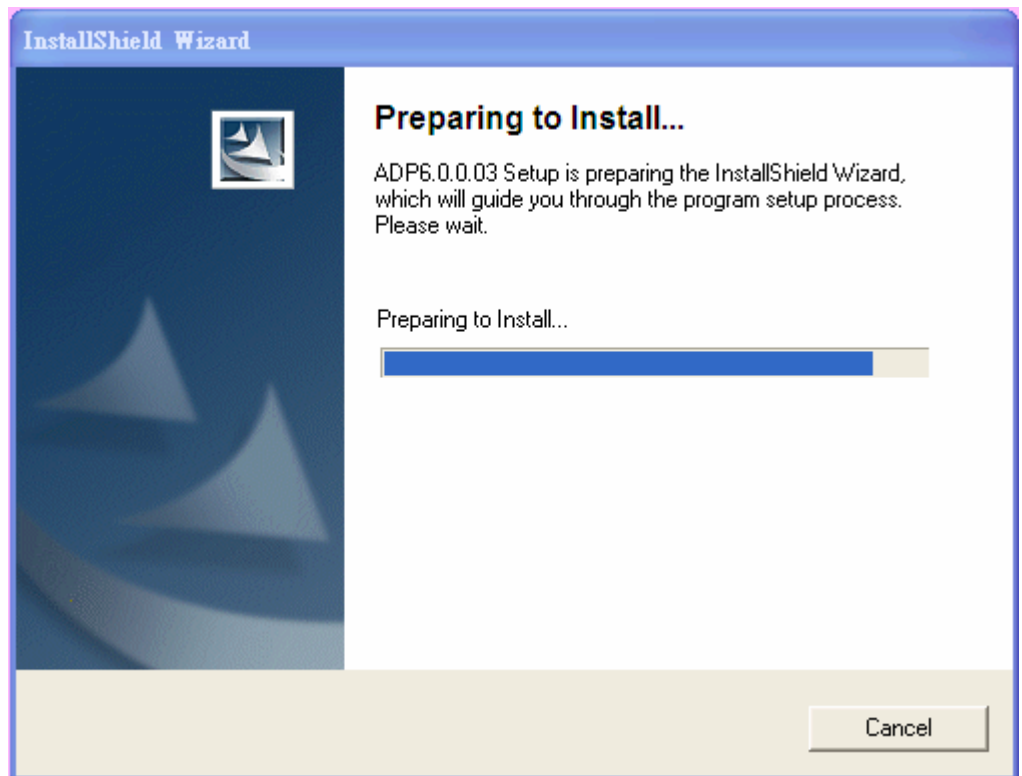

Figure 2. The ADP is preparing to install
3. Click [OK] to start to install, See Figure 2.